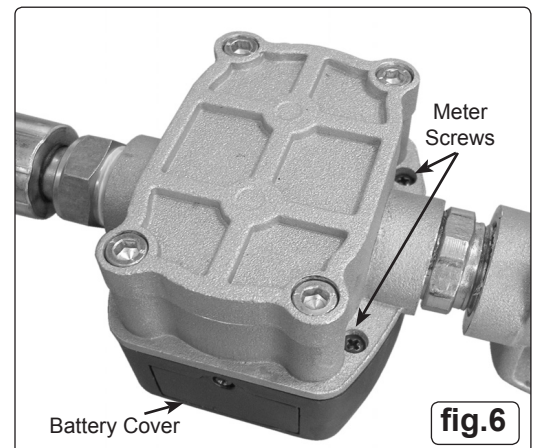

fig.6
- 5.6.1. Remove the rubber protective cover from the meter and unscrew the four phillips screws (fig.6) holding the digital meter, remove from the gun.